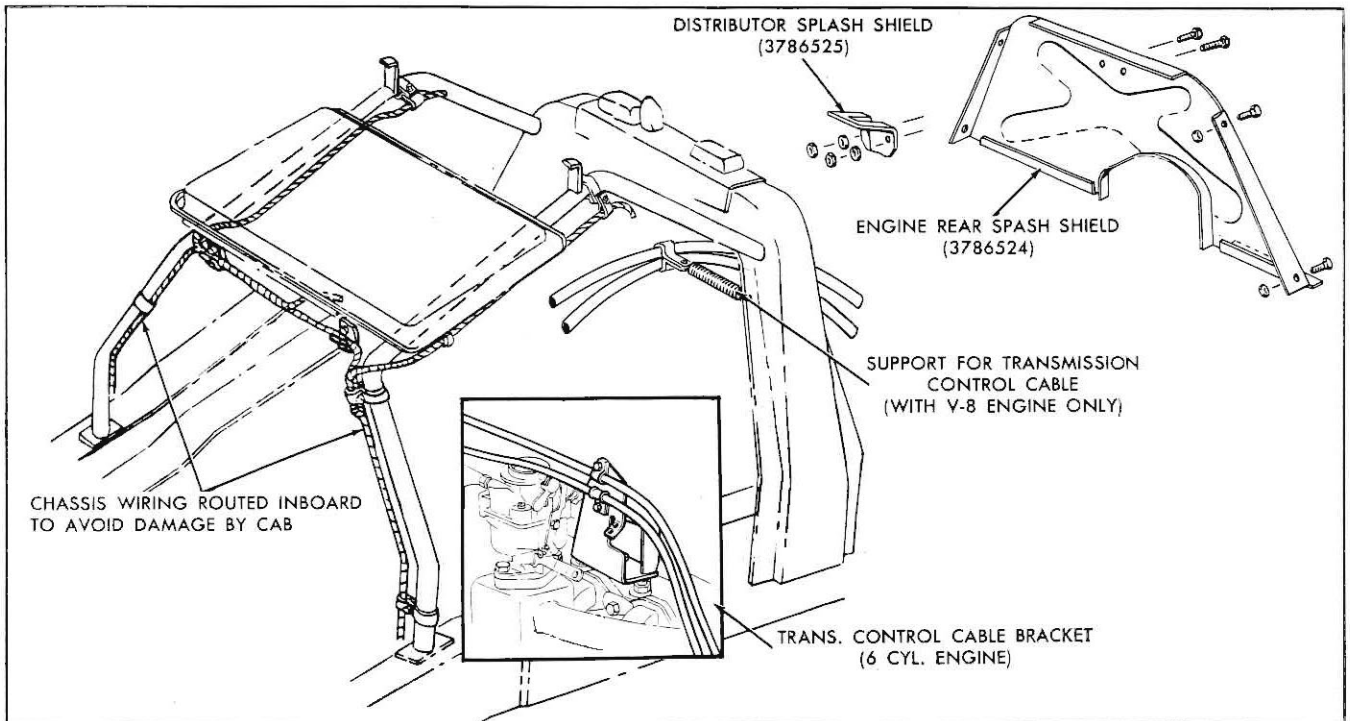

Fig. 3—Tilt Cab—Chassis Wiring, Transmission Cable Supports, and Splash Shields
- To avoid possible damage to chassis wiring routed along the transmission control island support legs, the wiring harness leads should be positioned on the inboard side of the support legs, as shown in Figure 3.
- A transmission control cable bracket of the type shown in Figure 29T, on page 10 of the 1960 Tilt Cab Shop Manual, was never used in production. The transmission control cable supports used in 1960-61 vehicles are shown in Figure 3 of this issue.
compartment of Tilt Cab trucks, an engine rear splash shield (fig. 3) is now being installed in production. On V-8 engine equipped models, an ignition distributor shield is also being used.